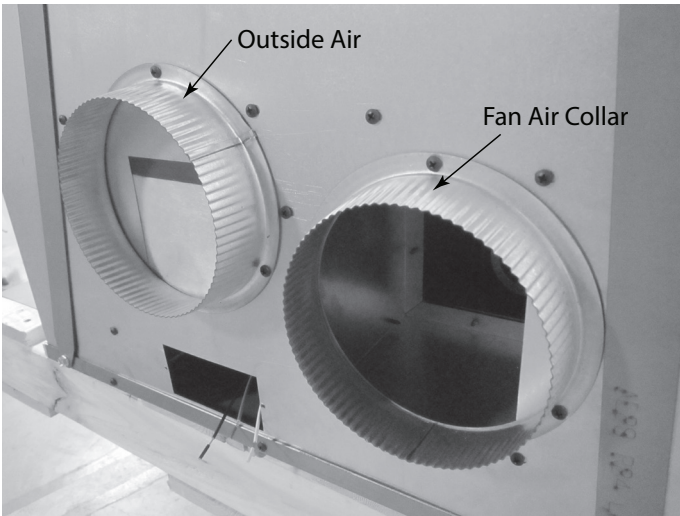
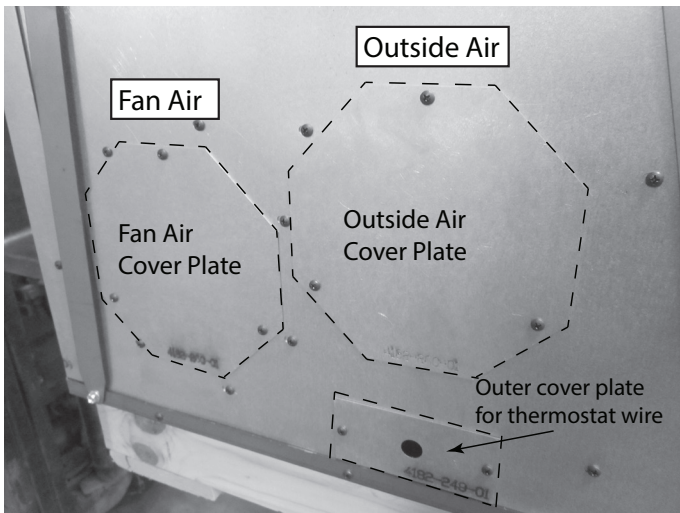

Figure 3.12 Right Side
Figure 3.13 Right Side
1. Remove outside air collar (Figure 3.12) and the outside air cover plate (Figure 3.13).